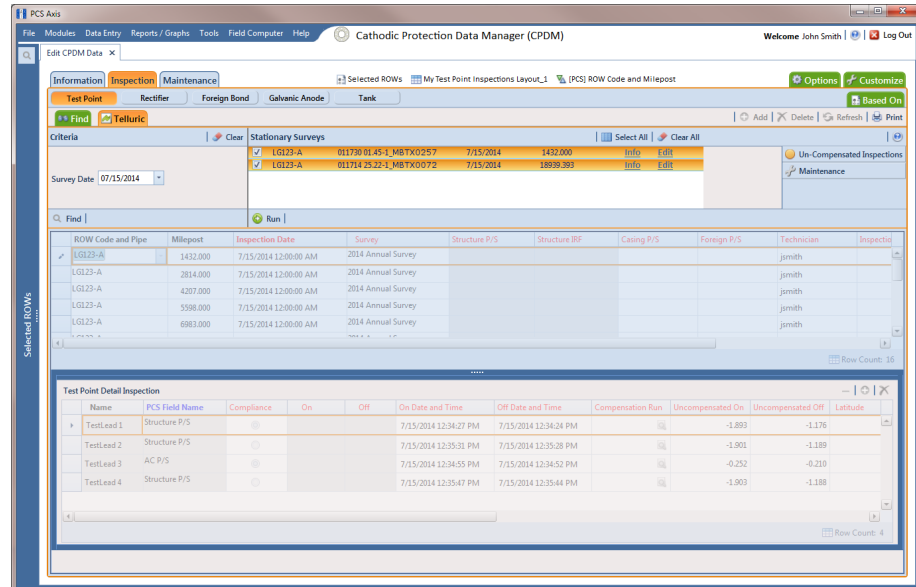

Figure 14-21. Telluric Workspace
- a Select the SDL upstream/downstream data set pair to use in the compensation run. Click the check box associated with the upstream and downstream SDL survey files (Figure 14-21).